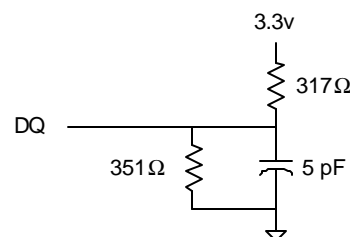

Fig. 2 OUTPUT LOAD EQUIVALENT
- Output loading is specified with $CL=5pF$ as in Fig. 2.